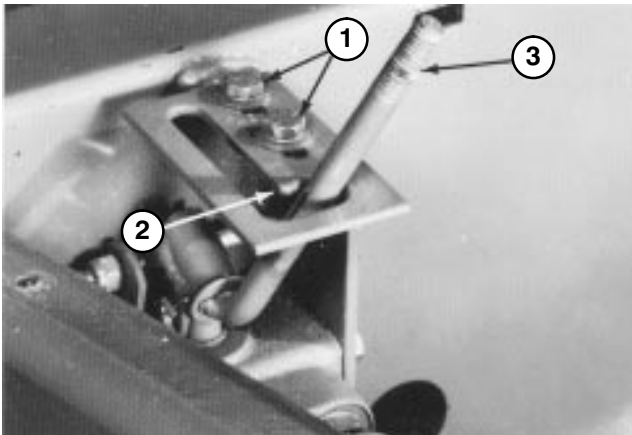

Figure 64
- Loosen two capscrews on top of the lift lever latch (Fig. 64). Place lever on rounded tip of latch (Fig. 64), and slide latch w/lever forward until stopping resistance is felt. Then tighten capscrews to lock the latch in place. Check for free operation of the lift lever by moving lever from RAISE or TRANSPORT to FLOAT position. Lift lever should just clear rounded position of latch as lever is moved into FLOAT position.